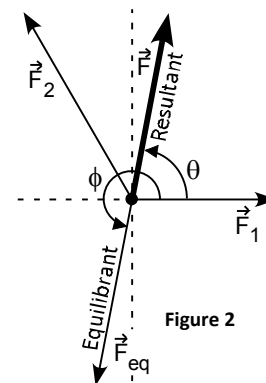

Figure 2
1. Set up the vectors to be added on the force table (Figure 2):  $\vec{F}_1$  is 100g at  $0^\circ$ , and  $\vec{F}_2$  is 150g at  $120^\circ$ . Note that the units of “force” are left in *grams*; this will simplify your calculations and measurements. It is not necessary to convert to Newtons!
2. Attach two pulleys to represent the forces to be added,  $\vec{F}_1$  and  $\vec{F}_2$  with their direction as indicated in Figure 2. The third pulley will represent the *equilibrant*, used to balance the other two forces, so its position can be set approximately for now. *Do not over tighten the pulley clamps!*